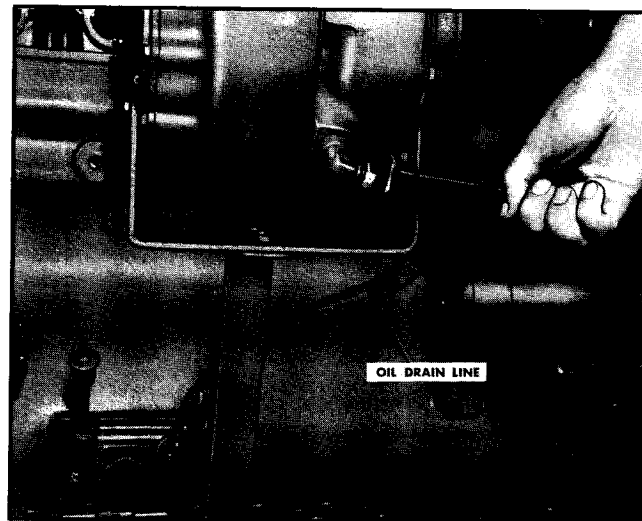

Fig. 4-8. Connecting drain line
5. Connect oil drain line from large boss on side of turbocharger to the crankcase. Fig. 4-8.